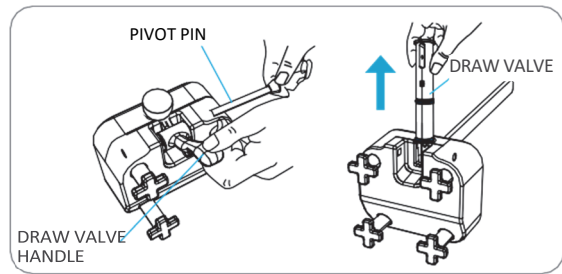

Figure 66
9. Draw valve handle and pivot pin should be taken out of freezing cylinder door to clean as shown in Figure 66.